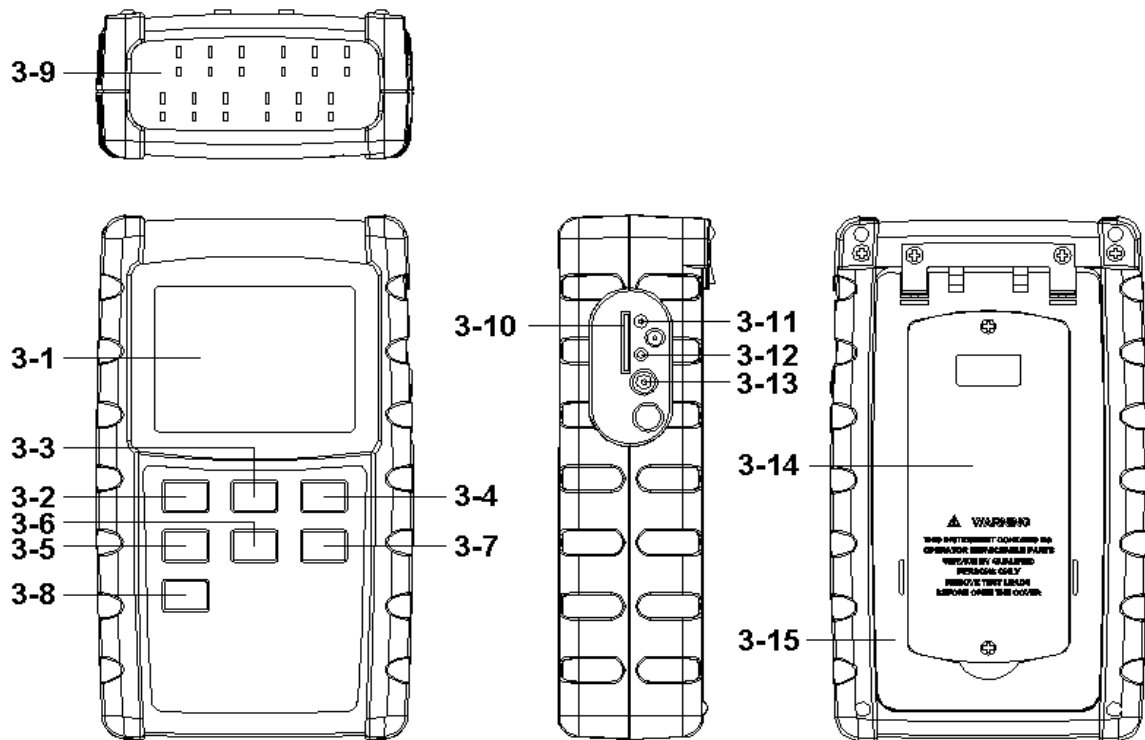

Fig. 1
1) Power on the meter by pressing the " Power button " ( 3-2, Fig. 1 ) once.
3) Insert the Type K probes into the " T1, to T12 input socket " ( 3-9, Fig. 1 ).
If intend to show the other 4 channels ( CH9, CH10, CH11, CH12 ) temperature value, just press the " Page Button " ( 3-6, Fig. 1 ) once , the Display will show those channels' Temp. value following, press the " Page Button " ( 3-6, Fig. 1 ) once again, the Display will revert to the 8 channels ( CH1, CH2, CH3, CH4, CH6, CH7, CH8 ) screen.
All the measuring procedures are same as the Type K ( chapter 4-1 ), except to select the Temp. Sensor type to " Type J, T, R, S " by pressing the " Type Button " ( 3-5, Fig. 1 ) once in sequence until the up LCD display show the " J, K,T, E, R, S " indicator.
During the measurement, press the " Hold Button " ( 3-3, Fig. 1 ) once will hold the measured value & the LCD will display a " HOLD " symbol.
1) The data record function records the maximum and minimum readings. Press the " REC Button " ( 3-4, Fig. 1 ) once to start the Data Record function and there will be a " REC " symbol on the Display.
a) Press the " REC Button " ( 3-4, Fig. 1 ) once, the " REC MAX " symbol along with the maximum value will appear on the Display.
If intend to delete the maximum value, just press the " Hold Button " ( 3-3, Fig. 1 ) once, the Display will show the " REC " symbol only & execute the memory function continuously.
- b) Press the " REC Button " ( 3-4, Fig. 1 ) again, the " REC MIN " symbol along with the minimum value will appear on the Display.
If intend to delete the minimum value, just press the " Hold Button " ( 3-3, Fig. 1 ) once, the Display will show the " REC " symbol only & execute the memory function continuously.
After power ON, the " LCD Backlight " will light automatically. During the measurement, press the " Backlight Button " ( 3-2, Fig. 1 ) once will turn OFF the " LCD Backlight ".
insert the SD card into the " SD card socket " ( 3-10, Fig. 1).
Press the " REC Button ( 3-4, Fig. 1 ) once , the LCD will show the text " REC ", then press the " Logger Button " ( 3-7, Fig. 1 ), the " REC " will flashing and beeper will sound, at the same time the measuring data along the time information will be saved into the memory circuit.
During execute the Datalogger function , if press the " Logger Button " ( 3-7, Fig. 1 ) once will pause the Datalogger function ( stop to save the measuring data into the memory circuit temporally ). In the same time the text of " REC " will stop flashing.
*If press the " Logger Button " ( 3-7, Fig. 1 ) once again will execute the Datalogger again, the text of " REC " will flashing .*
During pause the Datalogger, press the " REC Button " ( 3-4, Fig. 1 ) continuously at least two seconds, the " REC " indicator will be disappeared and finish the Datalogger.
Press the " REC Button ( 3-4, Fig. 1 ) once , the LCD will show the text " REC ", then press the " Logger Button " ( 3-7, Fig. 1 ) once, the " REC " will flashing once and Beeper will sound once, at the same time the measuring data along the time information and the Position no. will be saved into the memory circuit.
- \* During execute the Manual Datalogger, press the " ▲ Button " ( 3-5, Fig. 1 ) once will enter the " Position /Location no. setting. use the " ▲ Button " or " ▼ Button " ( 3-6, Fig. 1 ) to select the measuring location no. ( 1 to 99, for example room 1 to room 99 ) to identify the measurement location. After the position no. is selected, press the " Enter Button " ( 3-4, Fig. 1 ) once will save the Position/Location no. automatically.*
Press the " REC Button " ( 3-4, Fig. 1 ) continuously at least two seconds, the " REC " indication will be disappeared and finish the Datalogger.
During the normal measurement ( not execute the Datalogger ), If press " Time check Button " ( 3-8, Fig. 1 ) once , the left lower LCD display will present the time information of Year/Month, Date/Hour, Minute/Second in sequence.
During the normal measurement ( not execute the Datalogger ), If press " Sampling time check Button " ( 3-7, Fig. 1 ) once , the left lower LCD display will present the Sampling time information in second unit.